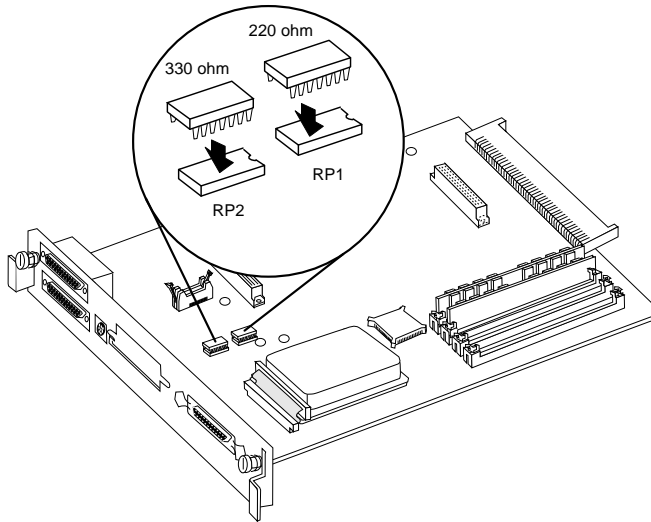

Fig. 8.24 *Insert the New DIP Resistors*
- Line up the notch on the 220-ohm DIP resistor with the notch on the RP1 socket. Carefully insert the resistor's pins in the socket. Then align and install the 330-ohm DIP resistor in the RP2 socket the same way (fig. 8.24).